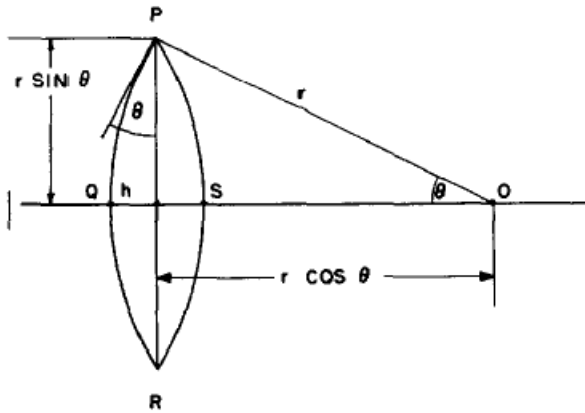

Figure 8: The nucleus at the grain boundary. Image from [1955Clem].
Non-spherical particles have been considered for grain boundary (GB) precipitation. Three morphologies are implemented for grain boundary, grain edge and grain corner precipitation, respectively, as shown in Figure 7. The parameter that defines the deviation from spherical shape is wetting angle (or dihedral angle),  $\theta$ , as described in Figure 8 and taken from Clemm and Fisher [1955Cle].
The radius  $r$  defined in previous equations is the curvature of the precipitate surface (the Big radius) as shown in Figure 8. It is exactly the definition in the growth rate whose coarsening consideration relates to the curvature effect. Therefore, the growth rate equation can be directly used with  $r$  being defined here. Again, for bulk, spherical precipitation it automatically corresponds to the particle radius.
For example, the size of the precipitate at grain boundary (two-grain junction) is the radius of the lens shown in Figure 8.